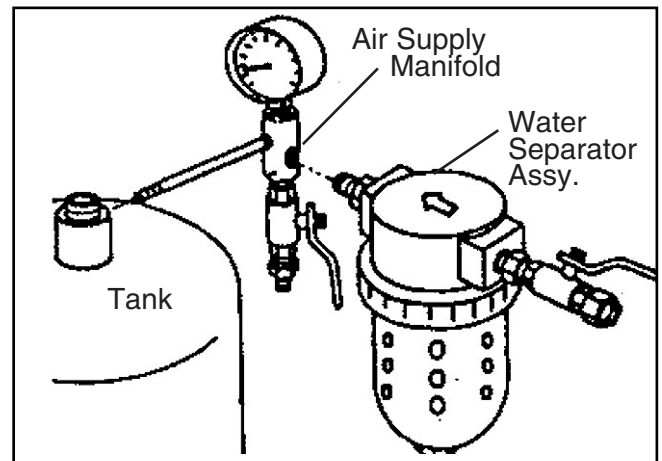

Figure 7. Air supply control system installation.
8. Connect the water separator assembly to the air supply Manifold as shown in **Figure 7**.
9. Now connect the gauge and water separator assembly to the top of the tank as shown in **Figure 7**.